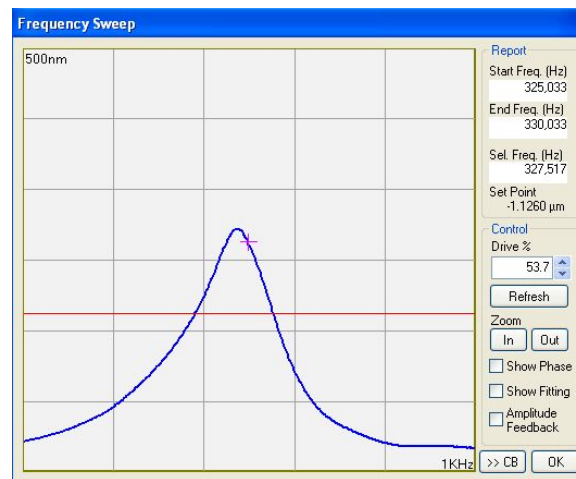

Fig. 4: typical frequency spectrum of the non-contact cantilever (Model: ACTA).
- (3) Adjust the two screws for the steering mirror located on the front side of the head to maximize the A+B signal first (In general, A+B value will be more than 4V). To keep maximizing the A+B signal, at the same time position the laser beam (displayed as red dot on the screen) to the centre of the PSPD so that both A-B and C-D signals are within $\pm 0.5V$.
- (4) Click on the “NCM ASetup” button. The “Frequency Sweep” window will be displayed. Click on the grid area and scroll the mouse to make the scale interval being 500nm. The frequency spectrum of the cantilever should look like the one show in Fig. 4.